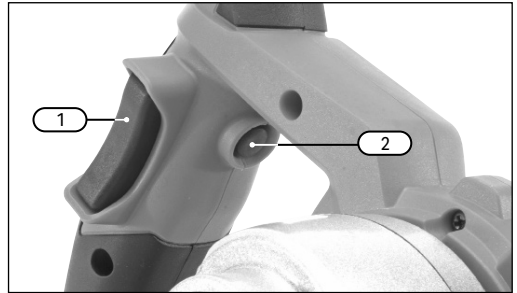
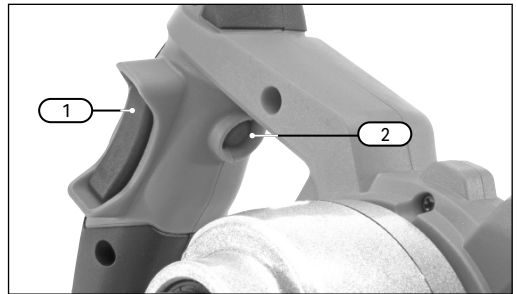

Fig. 2
Fig. 3
7.1 ON/OFF Trigger and Lock Off Button (Fig.2 – Fig.3)
- To start the mixer, press the lock off button (2) first, then press the ON/OFF trigger (1).
- To switch off, release the ON/OFF trigger (1).